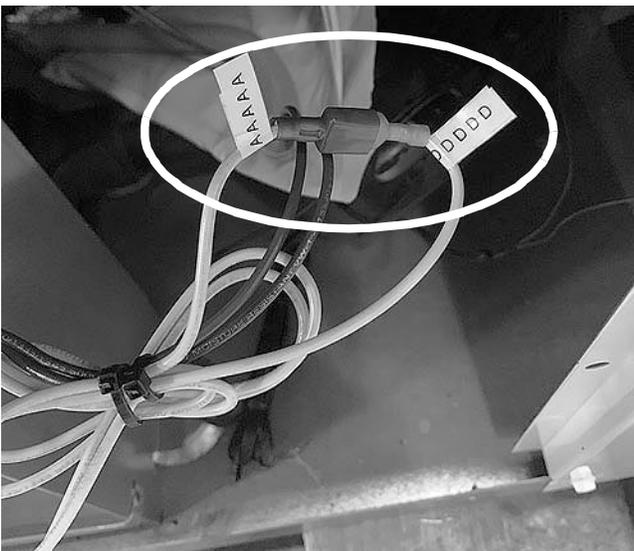

Fig. 18 Connect A and D
5. Connect yellow wire labeled A to yellow wire labeled D. (See Fig. 18)